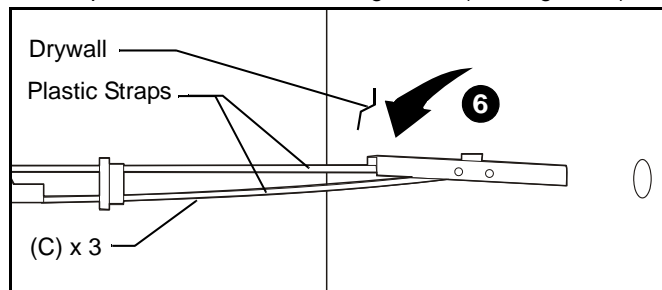

Figure 11
6. Hold metal channel on anchor (C) flat alongside plastic straps and slide channel through hole. (See Figure 11)